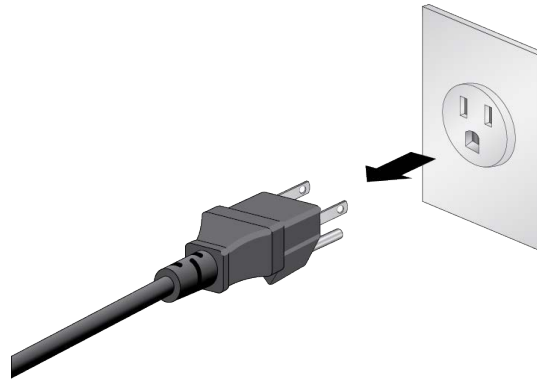

Figure 34. Powering Off the AC Power Supply
1. Unplug the power cord as shown in Figure 34.